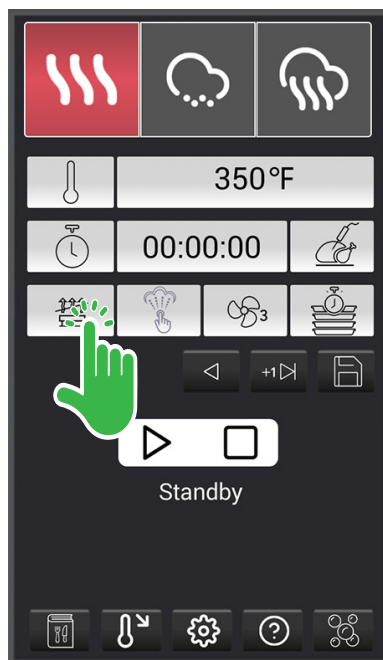

Fig. 14
4. Touch the Vent icon (Fig. 14) to toggle between the open and closed position.